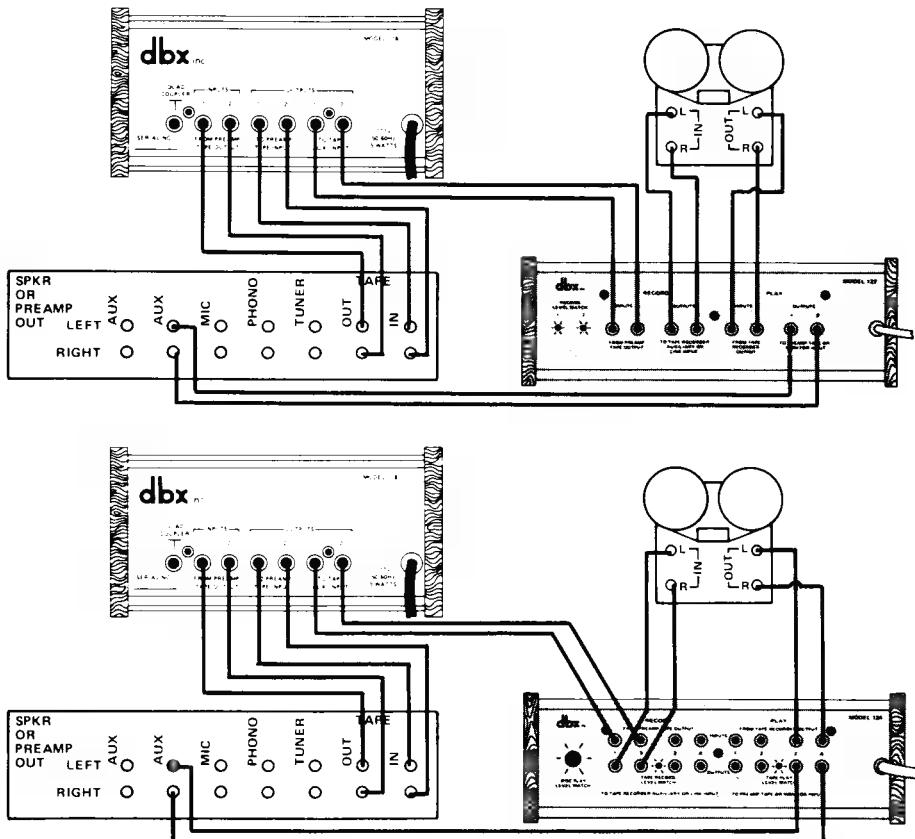

Fig. 18 – Using the dbx 118 in conjunction with a dbx 122 or 124 Tape Noise Reduction System
1. Connect your system as shown in Figure 18.